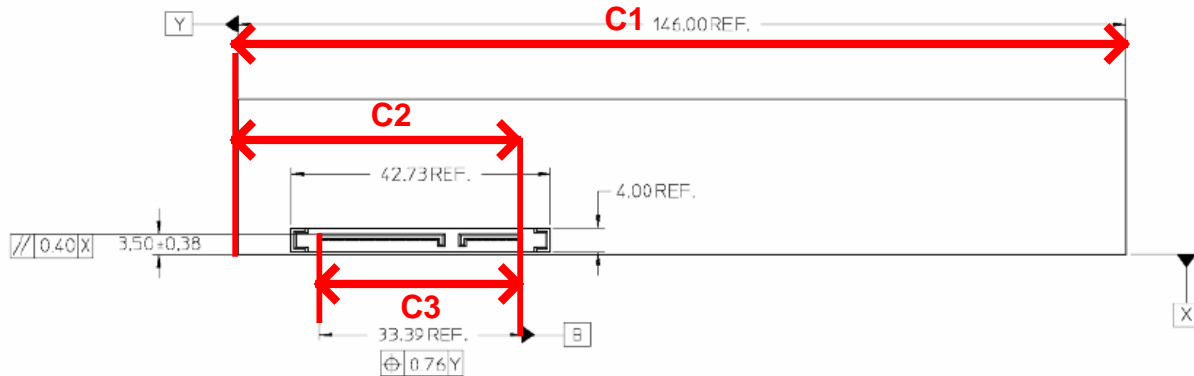

Figure 5
1. Using the outside measurement jaw of the calipers measure the value of  $C1$  as shown in Figure 5. Record the value of  $C1$ .
2. Using the outside measurement jaw of the calipers measure the value of  $C2$  as shown in Figure 5. Record the value of  $C2$ .
3. Using the outside measurement jaw of the calipers measure the value of  $C3$ , the width of the device plug connector as shown in Figure 5. Record the value of  $C3$ .